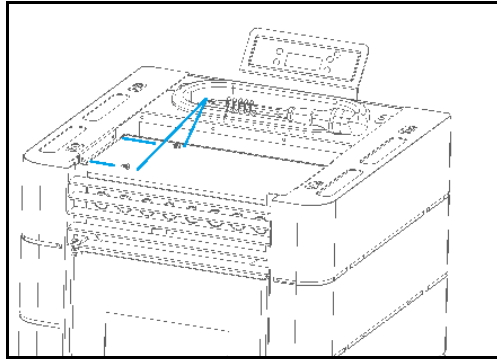

Figure 22 - Attaching the side casings the top of the unit
d) Repeat the process described in b) and c) in this manual for the other casing and secure the side parts using four screws from the kit, two on each side, as shown in Figure 22.